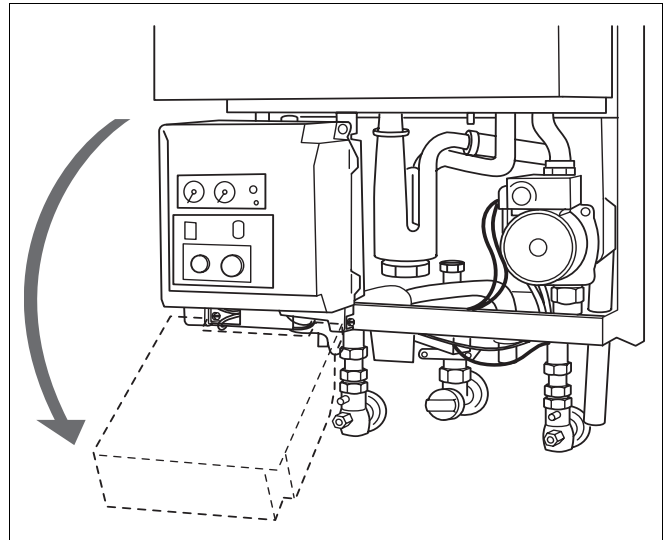

Fig. 85 Swivel UBA housing downwards
- Swivel the UBA housing downwards (fig. 85).